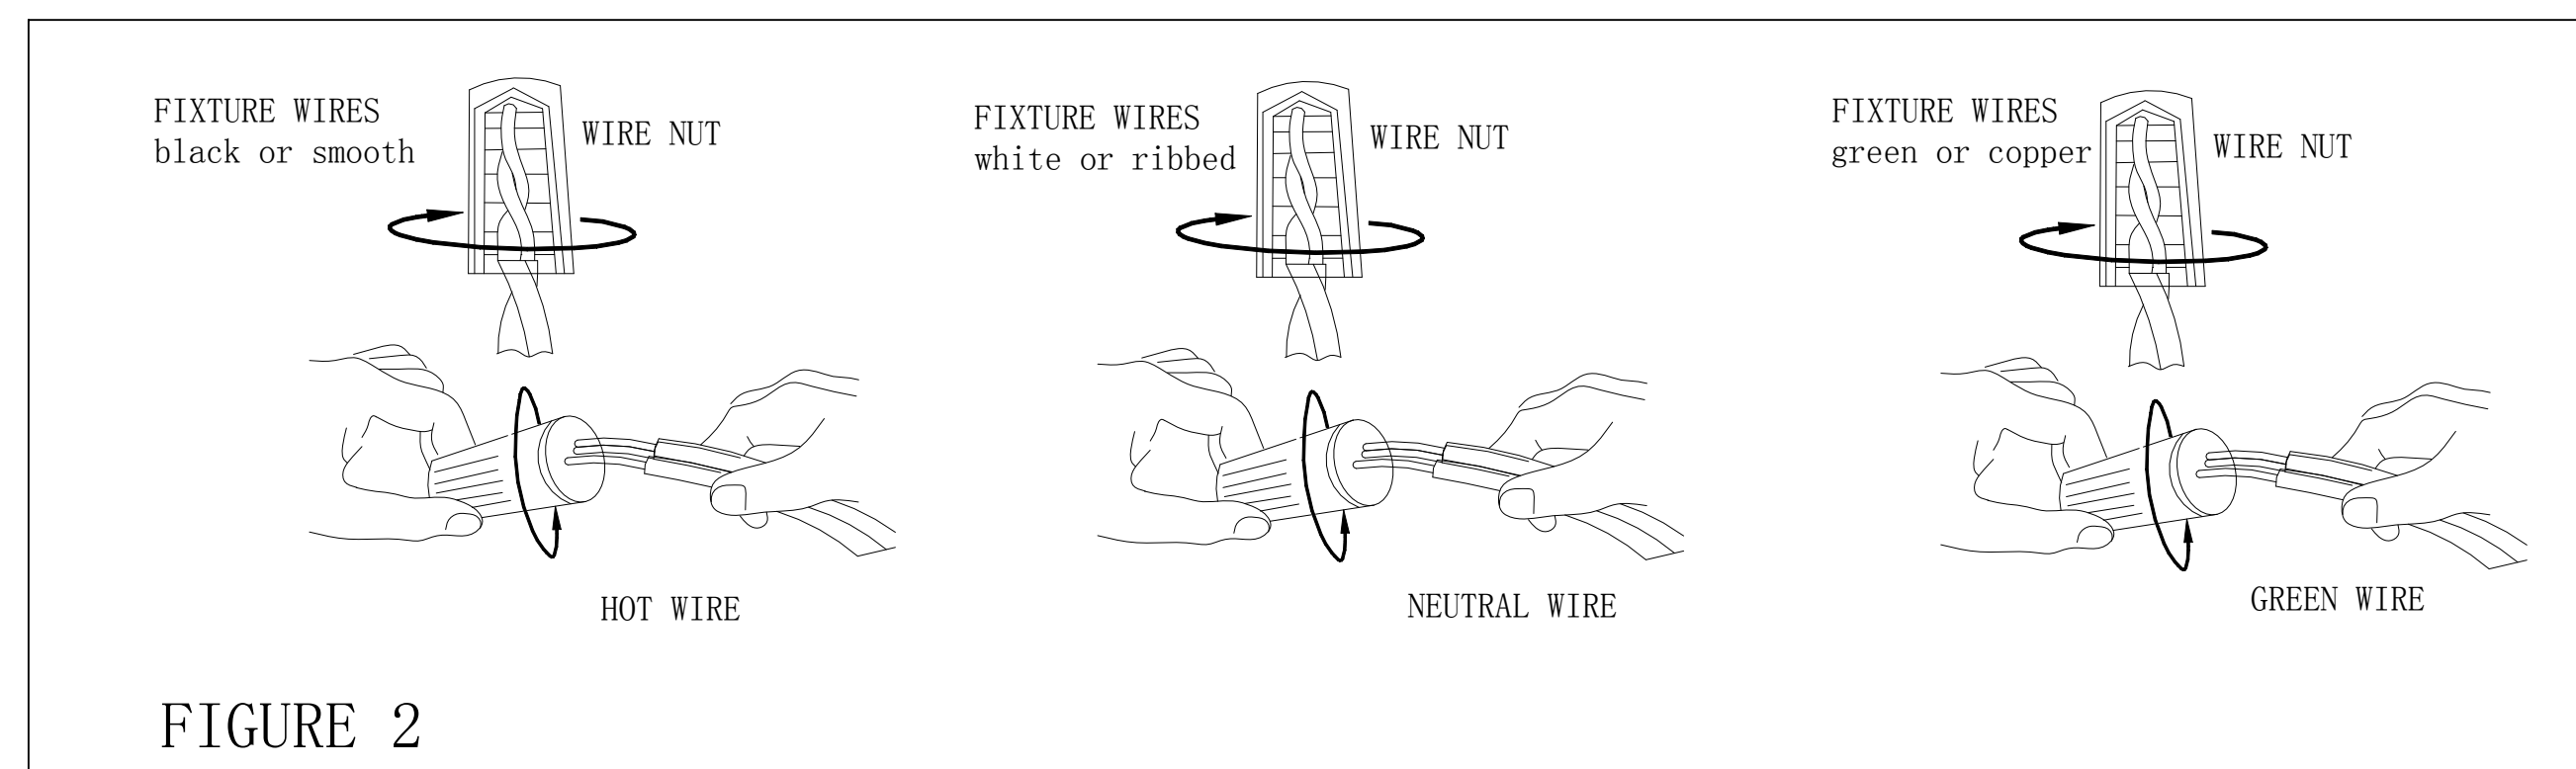

FIGURE 2
10. Install both ground wires in the Crossbar (C) with the Green Ground Screw (B) supplied.
11. Place the white wire, ribbed or tinted wire evenly against the white wire from the outlet box and place the black, smooth or un-tinted wire evenly against the black wire from the outlet box. (Connecting the Wires - See Figure 2)
12. After the wires are connected, tuck them carefully inside the outlet box. Place the Canopy (G) over the outlet box and secure with Pre-Threaded Ring (H).
### Wiring (see Figure 2)